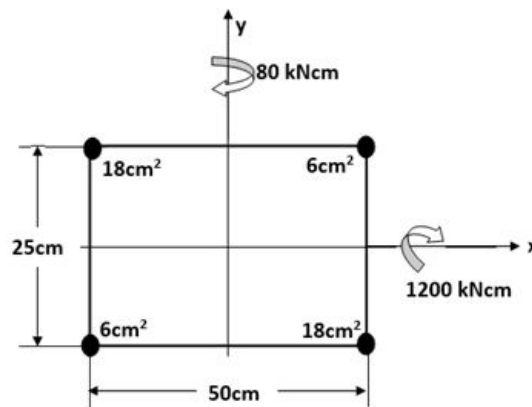

Fig.2
2. Compute the load on the lumped flanges due to bending of the section shown in fig.2. Assume the web do not take part in bending. Compute the loads using moment values with respect to x and y axis and principle axis.